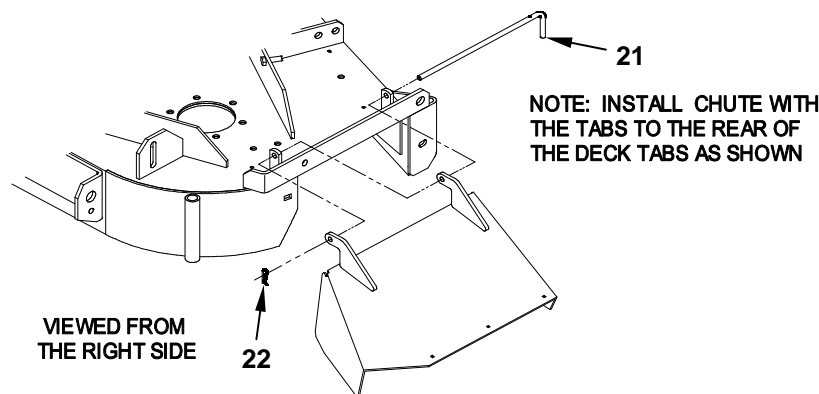

FIGURE 16
- 4.3.6 Install the discharge chute using the chute pivot pin and hairpin (See Figure 16).